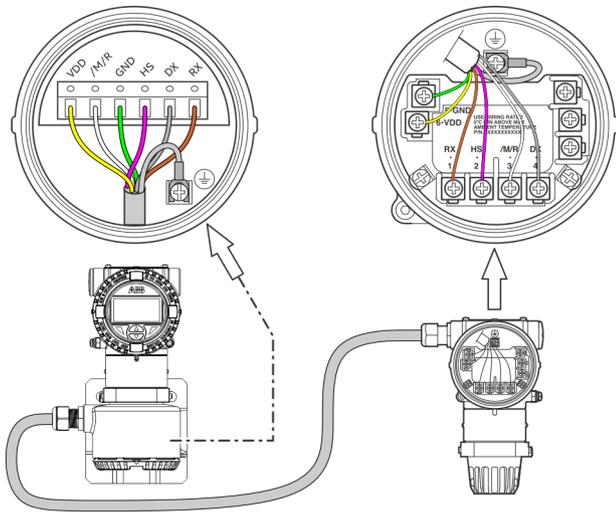

Figure 44: Electrical connection
6. Connect the wires to the corresponding terminals (see **Figure 44**).